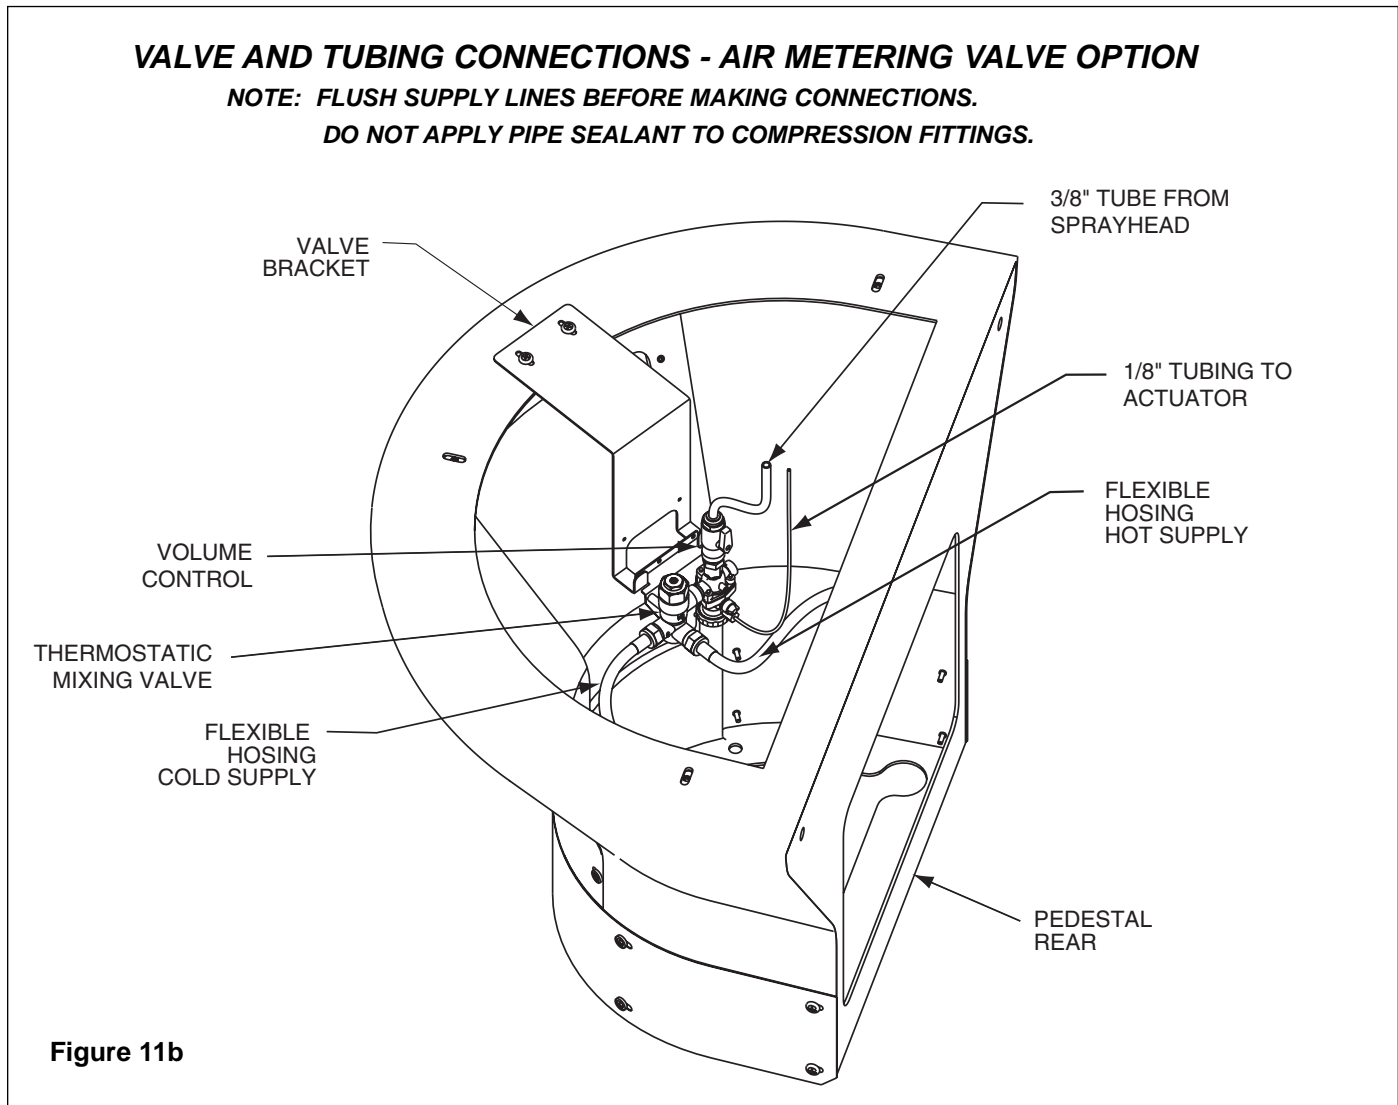

Figure 11b
1. Attach hot and cold flexible supply lines to mixing valve assembly, two places (see Figure 11a and Figure 11b).